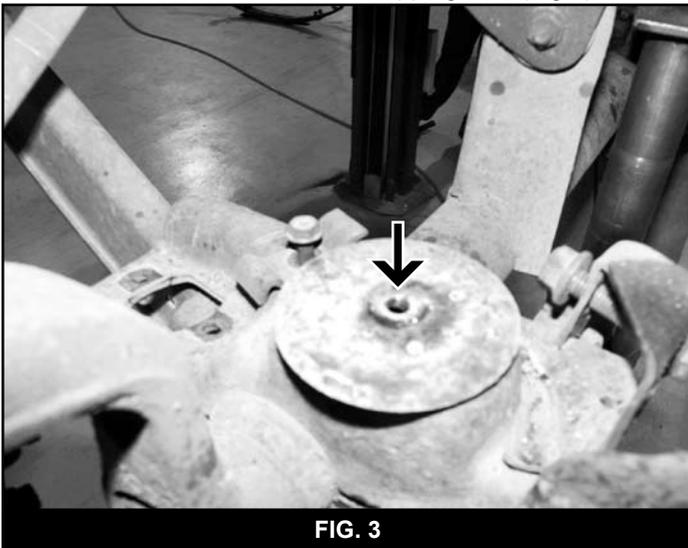

FIG. 3
20. Drill lower bump stop holes to 5/16" diameter and use 3/8" self-tapping bolt (#438) to cut threads for bump stop extension. Remove 3/8" self-tapping bolt. (Fig 3)